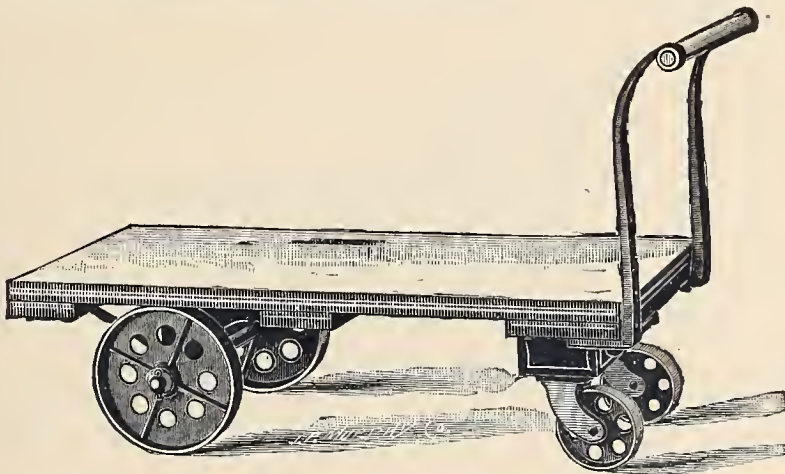

Fig. B 521. — Caster-Wheel Warehouse-Truck.
*The Caster-Wheel Warehouse Truck*, which we illustrate at *Fig. B 521*, is a heavier truck than the one just described, and is recommended for grocers, leather, commission, and grain warehouses, etc. It can be quickly and easily turned in a small space.